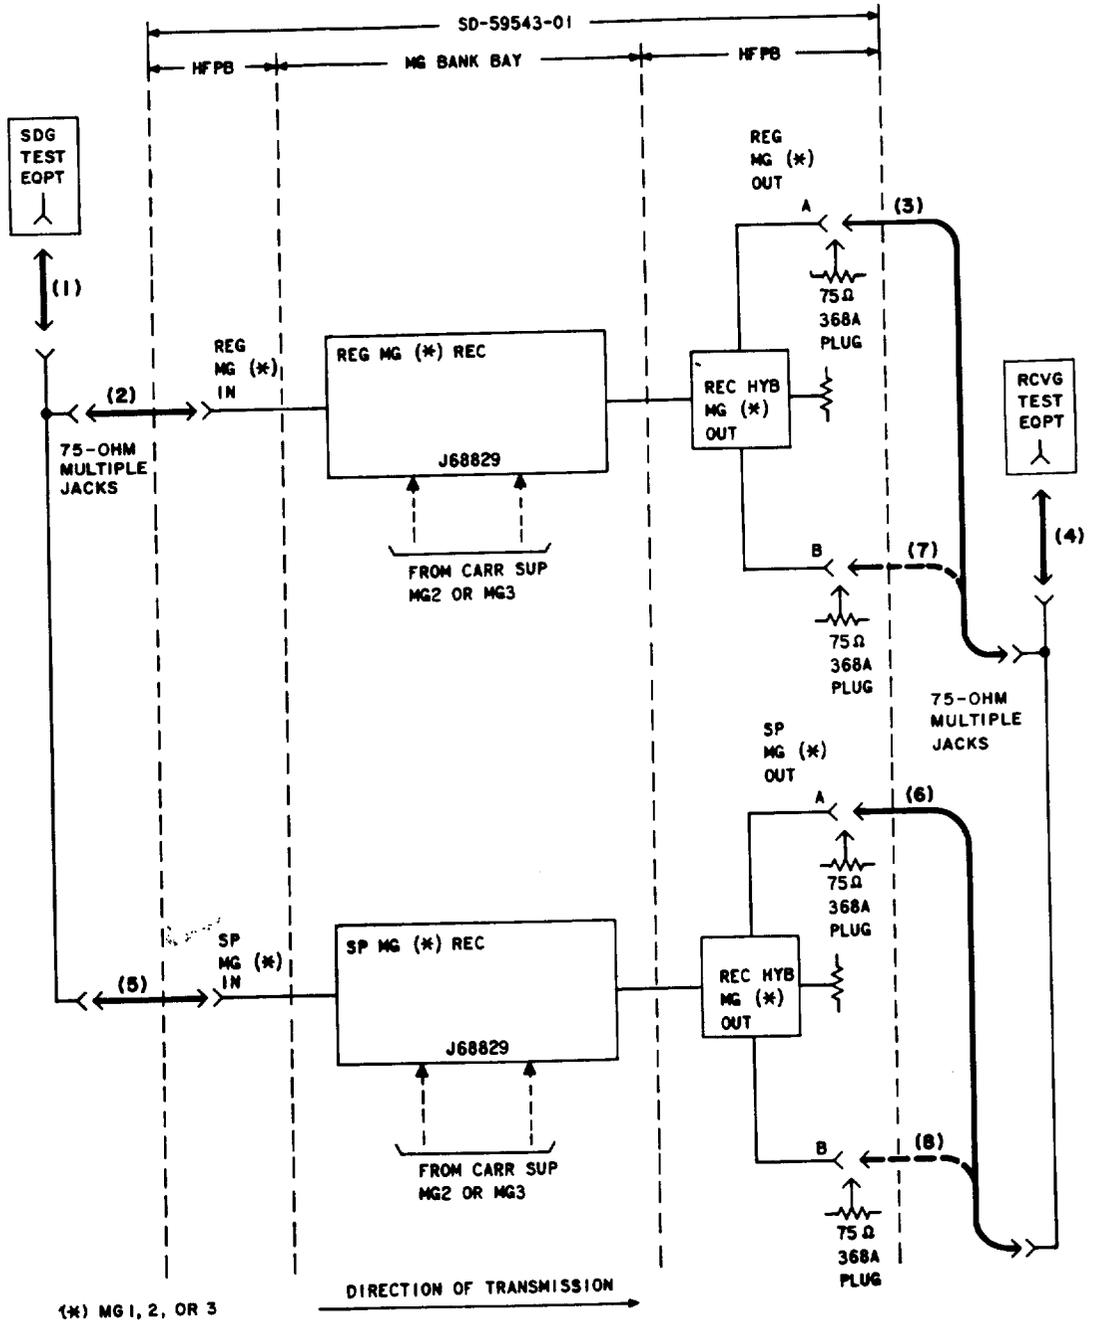

Fig. 1—Receiving Mastergroup Bank Circuit, Turnover Test
- 4 Make patches (1), (2), (3), and (4) in Fig. 1.
7	<p>Make patches (5) and (6) in Fig. 1.</p>
9	<p>Remove patches (3), (5), and (6) in Fig. 1.</p>
12	<p>Make patch (7) in Fig. 1.</p>
14	<p>Make patches (5) and (8) in Fig. 1.</p>